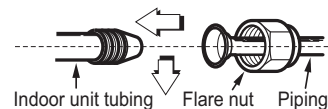

Fig. 10 —Align Pipe Center
5. Connect the conduit to conduit panel (see Fig. 10).